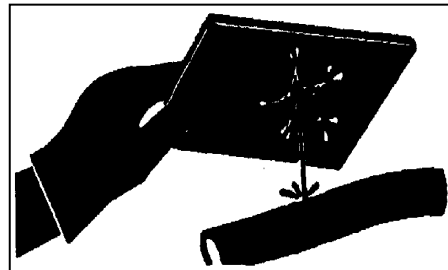

Figure 1.28.2
- 4) Inspect leakage with cardboard, make sure to protect your hand and body against touching high pressure liquids (As figure 1.28.2).